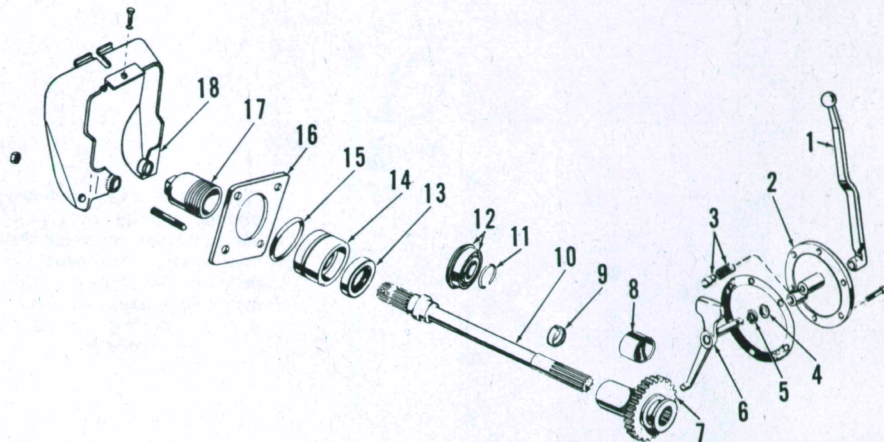

Fig. 245—Exploded view of live pto output shaft assembly and shift control unit used on some tractors.
The pto control handle (1—Fig. 245) can be moved to engage the ground speed driven gear (7) with the drive gear on the bevel pinion shaft. This causes pto output shaft (10) to turn in direct proportion to ground speed of tractor.
**200. R&R AND OVERHAUL.** The pto output shaft (10—Fig. 245) can be